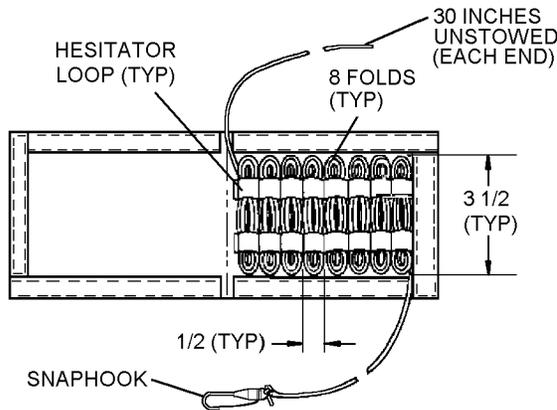

Figure 10-19. Stowed Painter Line
15. Stow painter line in painter line pouch by forming eight 3 1/2-inch bights in line; and inserting each bight in eight hesitator loops provided. Leave 30 inches of unstowed painter line at each end of pouch. See figure 10-19. Close pouch; then secure with hook and pile tape provided.
line extending from open end of pouch with a bowline knot. See figure 10-19.